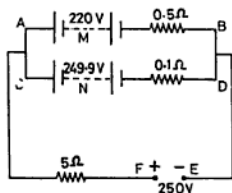

Fig. NE 9.29
- 9.29 Two batteries M and N are connected to a 250 V dc supply for charging through the $5\ \Omega$ resistance as shown in Fig NE 9.29. Battery M is of emf 220 V and internal resistance $0.5\ \Omega$ and battery N of emf 249.7 V and internal resistance $0.1\ \Omega$. Find (i) the value and direction of current in each battery and (ii) the total current taken from the supply.